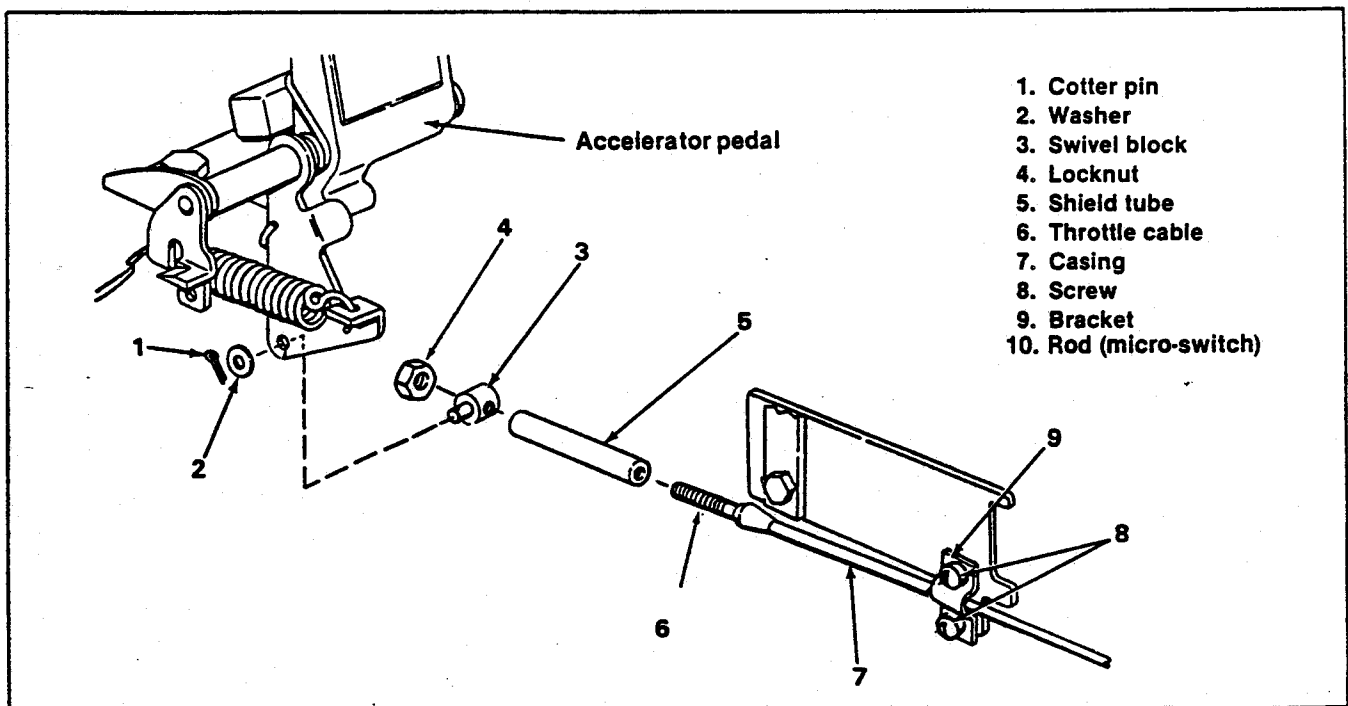

Figure 6-7. Throttle Control Adjustment
Throttle Control Adjustment (Figure 6-7).
6. See Figure 6-7. Loosen the screws (8) and move the casing (7) in the bracket (9) to achieve the adequate clearance. When adequate clearance is obtained, remove the swivel block from the accelerator pedal bracket.
7. Thread the shield tube (5) all the way onto the cable. Install the swivel block (3) on the cable so it rests against the shield tube, then install the locknut (4) on the cable and tighten it against the swivel block.
8. Connect the swivel block to the accelerator pedal bracket and secure it with washer (2) and cotter pin (1).